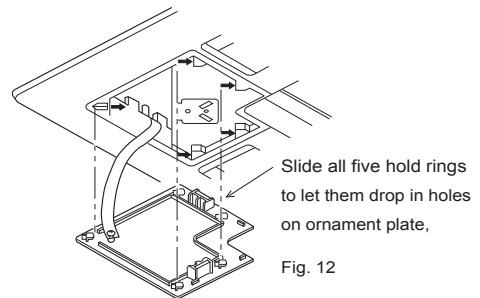

Fig. 12
- ② Install cover plate onto ornament plate. (Refer to Fig. 12)